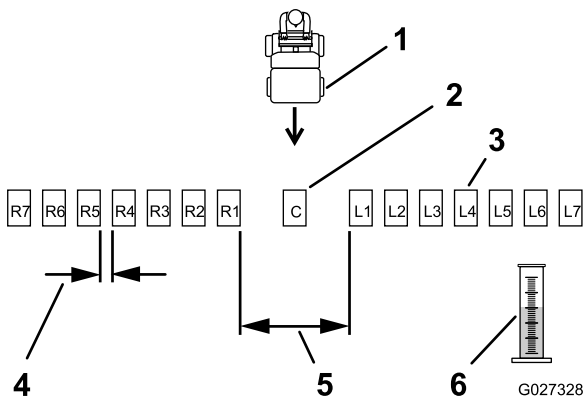
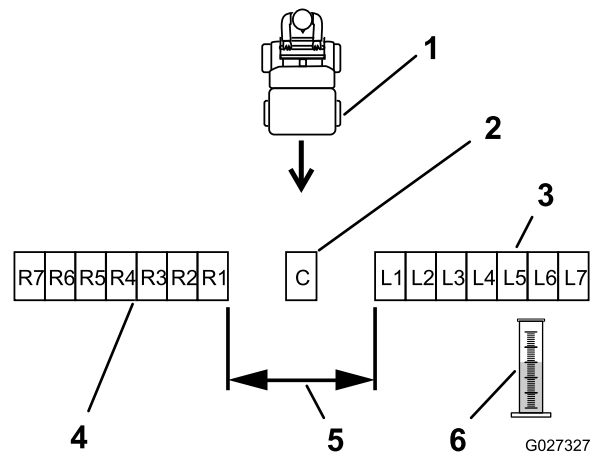

Figure 23
Figure 24
3. Place the remaining pans in a straight line as shown in Figure 23 or Figure 24.
Space six additional pans, on each side, 12 inches (30 cm) apart (Figure 23).
Place six additional pans, on each side, with no gap in between each pan (Figure 24).
9. Label each graduated measuring cylinder to correspond with the distribution pans (i.e. ...L2, L1, Center, R1, R2...); refer to Figure 23 and Figure 24.